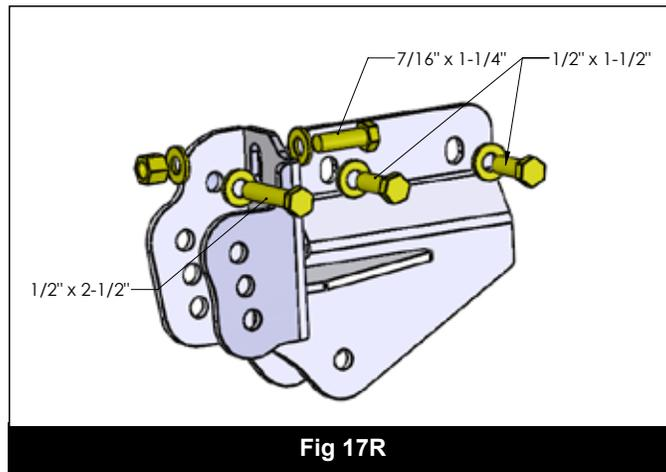

Fig 17R
27. Reattach the bracket to the frame with new 12mm-1.50 x 35mm bolt with 12mm flat washer thru the OE skidplate mount. All the hardware for the rear control arm brackets is located in bolt pack #762. Install 1/2" x 1-1/2" bolts and 1/2" SAE washers into the rivet nuts. Fasten the bracket through the hole drilled into the body mount with a 7/16" x 1-1/4" bolt, nut and 3/8" USS washers. Fasten the bolt tab running out the bottom of the frame with a 1/2" nut and 1/2" SAE washer. Leave hardware loose until all hardware is installed. Torque 1/2" hardware to 65 ft-lbs and 7/16" hardware to 50 ft-lbs. Note: Use Loctite on bolts that go into rivet nuts. (Figure 17R)